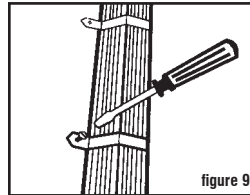

figure 9
Attaching the downspout. Each downspout section is fastened securely against the wall with two Kaycan downspout straps (1), attached to the wall with two nails or screws in each strap (figure 9).